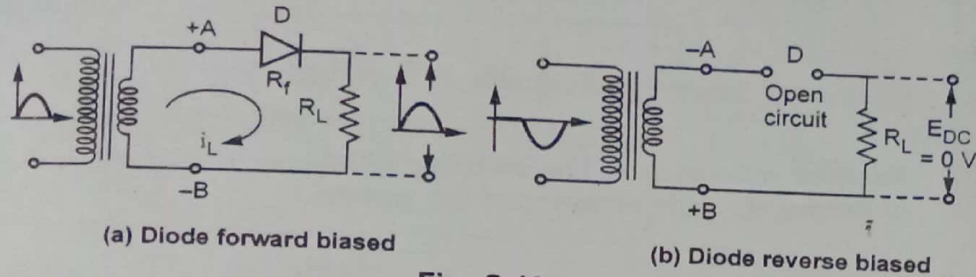

Fig. Q.18.2
- During the positive half cycle of input a.c. voltage, terminal (A) becomes positive with respect to terminal (B). The diode is forward biased and the current flows in the circuit in the clockwise direction, as shown in the Fig. Q.18.2 (a). This current is also flowing through the load resistance R_L hence denoted as i_L (load current).
- During negative half cycle when terminal (A) is negative with respect to terminal (B), diode becomes reverse biased. Thus it acts
as an open circuit. Hence no current flows in the circuit as shown in the Fig. Q.18.2 (b).